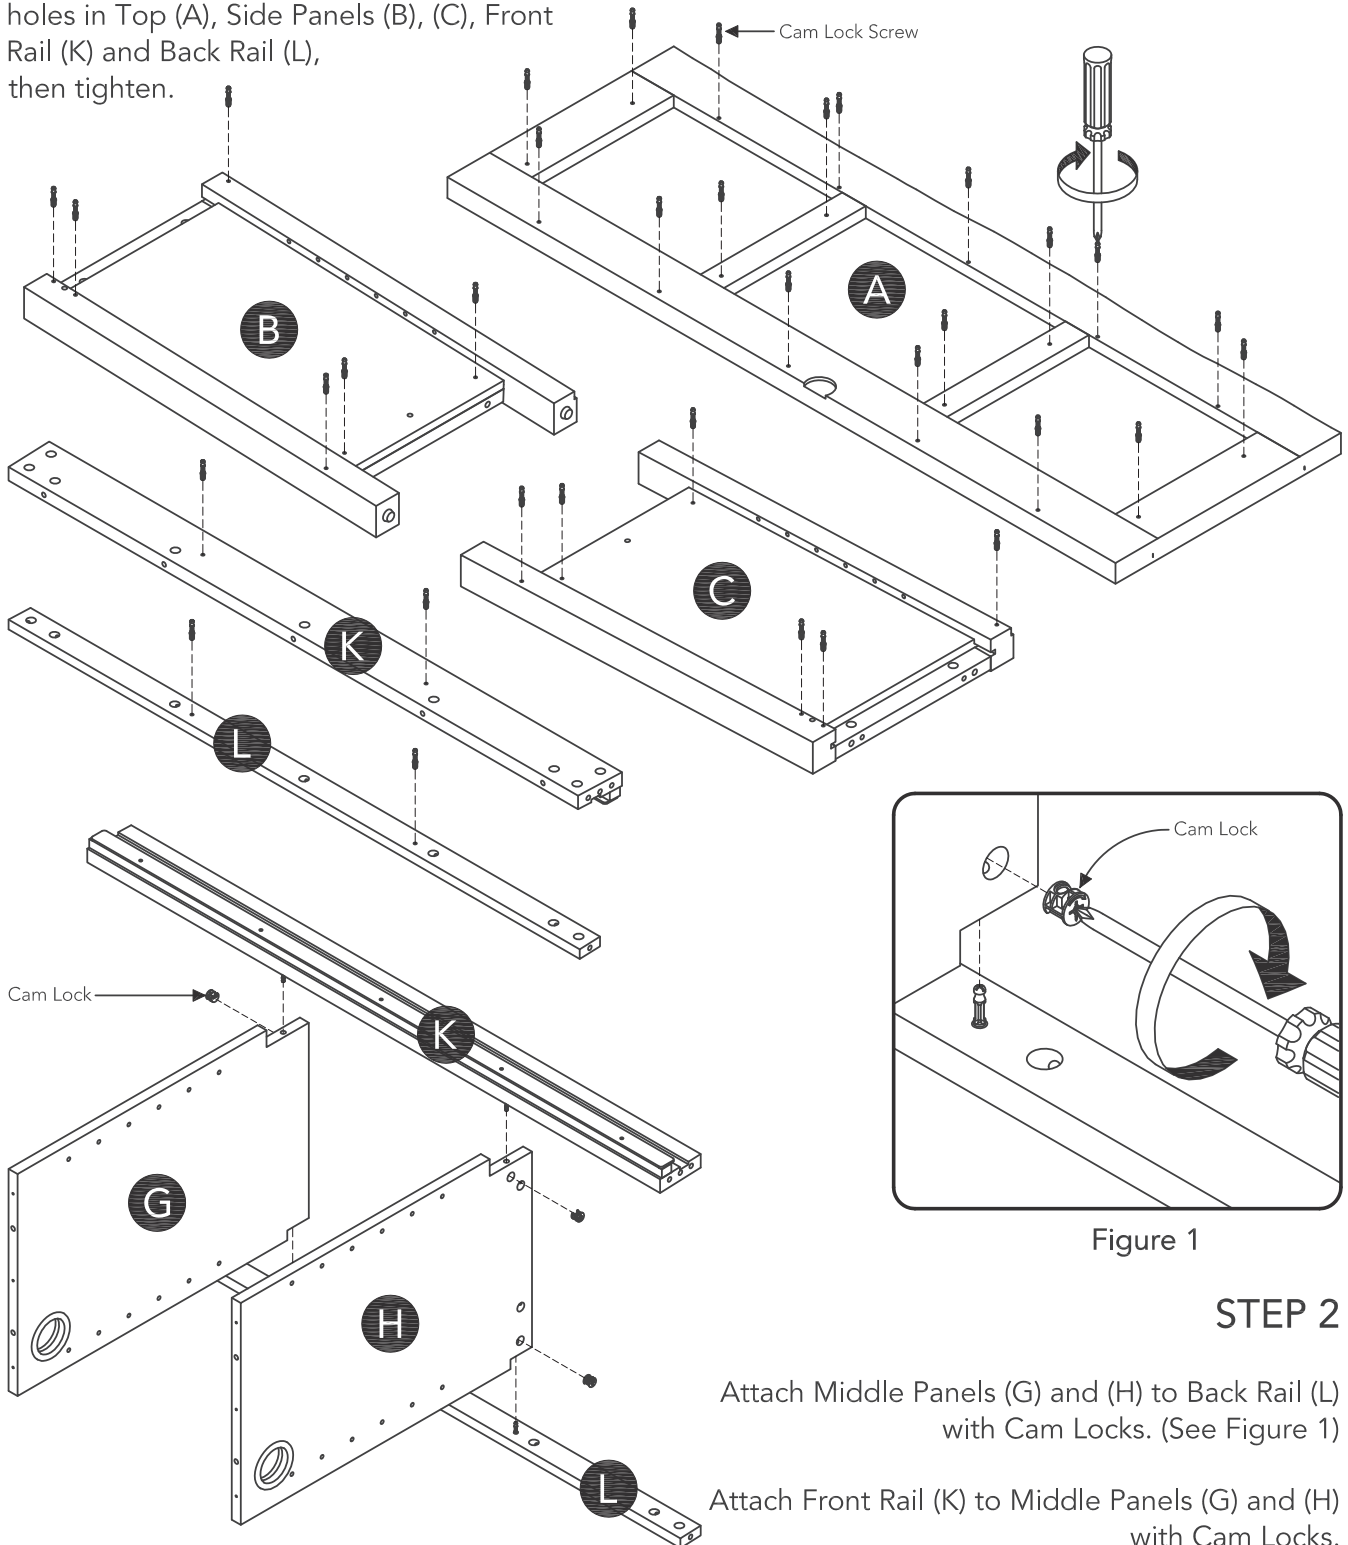

Figure 1
Attach Middle Panels (G) and (H) to Back Rail (L) with Cam Locks. (See Figure 1)